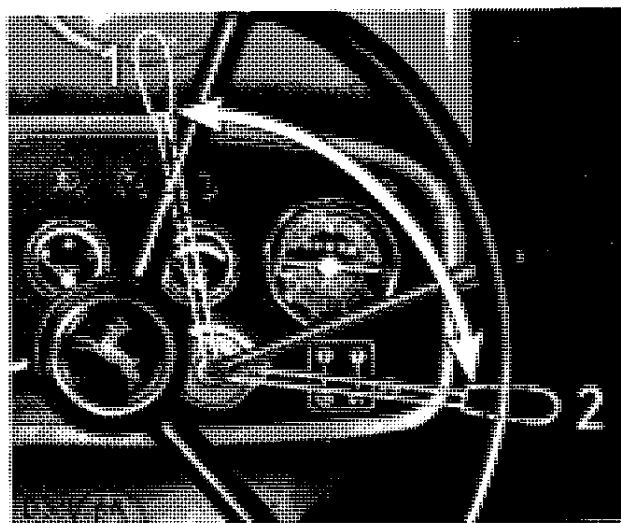

Fig. 10: Hand throttle 1. Low revs.
6. Now adjust the hand throttle (fig. 10) to full engine speed (position 2, fig. 10) for tractors with Roto Diesel Pumps; for tractors with Bosch or Roosa Master Pump set hand throttle to medium engine speed. If equipped with lockable stop knob (to prevent unauthorized starting of engine), turn knob 1/4 turn to left and push it in.
For work in the field the hand throttle (fig. 10) is set immediately to the desired setting as shown on the tractormeter (fig. 19). When the accelerator pedal is released the engine speed will return to the speed set by the hand throttle. For travelling on the road the hand throttle should be set to the idling position and the tractor is controlled by the foot pedal.